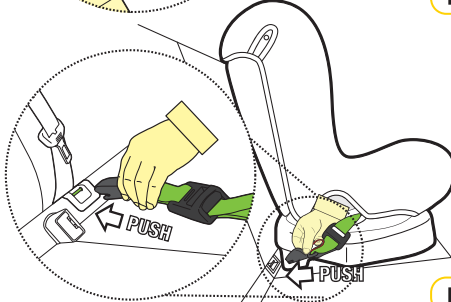

Figure 2
Step 2: Insert the flexible LAC into the ISOFIX lower anchorage point. You may need to 'PUSH' into the seat bite where the ISOFIX symbols indicate. Give a 'PULL' to check for positive engagement (refer Figure 2).